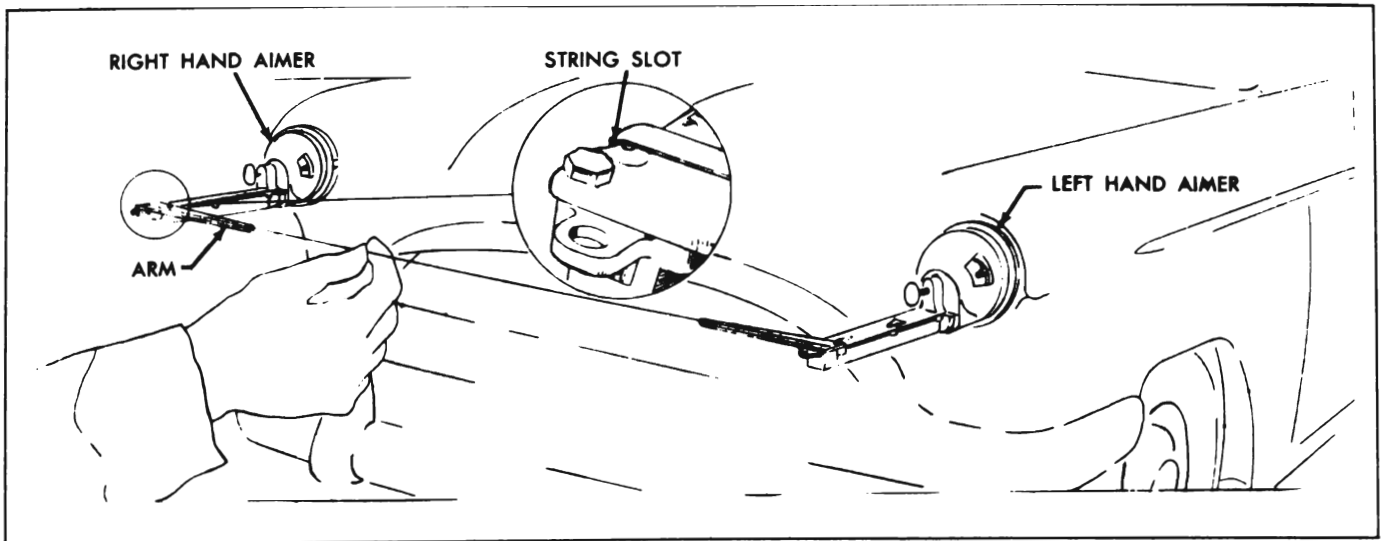

Figure 10-42—Positioning String
5. With aimers in place, position the knots on each end of the elastic string in the slots provided on both aimers. See Figure 10-42. Car doors must be closed and car rocked gently sideways to equalize springs, prior to checking and adjusting headlamps.